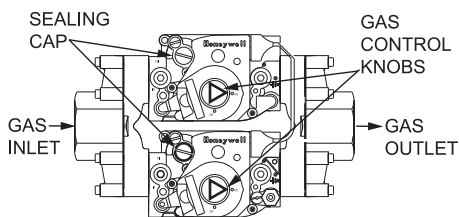

FIGURE 22.
Figure 22 shows the type of combination manual gas control valve and regulator used on these heaters.
3. Remove the regulator adjustment sealing cap and adjust the pressure by turning the adjusting screw with a screwdriver. See Figure 22.